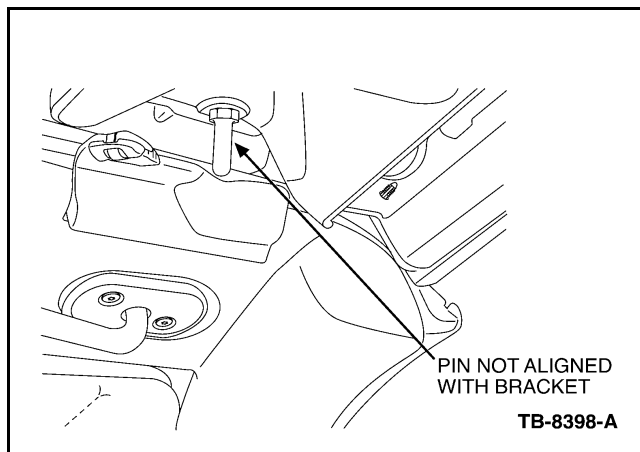

Figure 2 - Article 05-24-6
2. Top latch dowel pins do not align with header latch bracket. (Figure 2)